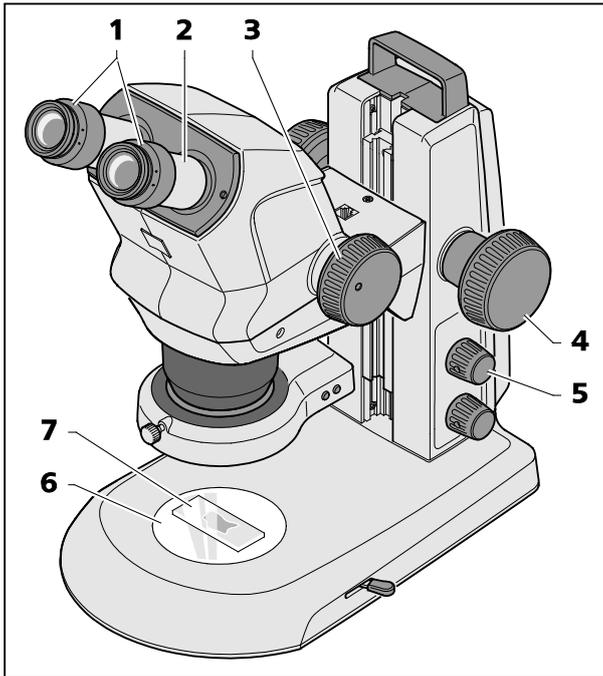

Fig. 13 Adjusting the stereo microscope
7. Refocus the observed "distinct object detail" using the focus knob until it is observed "sharply" in the object field center again (Fig. 13/4).
8. Reset to the lowest zoom value (Fig. 13/3) and correct any image blurring by adjusting the diopter compensation **on the adjustable eyepieces for each eye separately** (compensation of visual defect) (Fig. 13/1).
For this final step, **do not use** the focusing knob, Fig. 13/4.
1. Place specimen (Fig. 13/7) centrally on the glass or plastic plate (Fig. 13/6) and illuminate it (Fig. 13/5).
2. Set diopter compensation on the adjustable eyepieces (Fig. 13/1) to "0".
3. Set individual eye distance by shifting the eyepiece tube laterally (Fig. 13/2), until only **one** complete light circle (specimen field) is visible when looking into the eyepieces with both eyes.
4. Initially, set the zoom (Fig. 13/3) to the smallest magnification.
5. Focus on a small distinct detail in the center of the specimen (Fig. 13/4).
6. Adjust maximum zoom value (Fig. 13/3).
- By pressing the knob (Fig. 13/5), the reflected-light illumination is switched ON or OFF (spot illuminator or double spot illuminator).